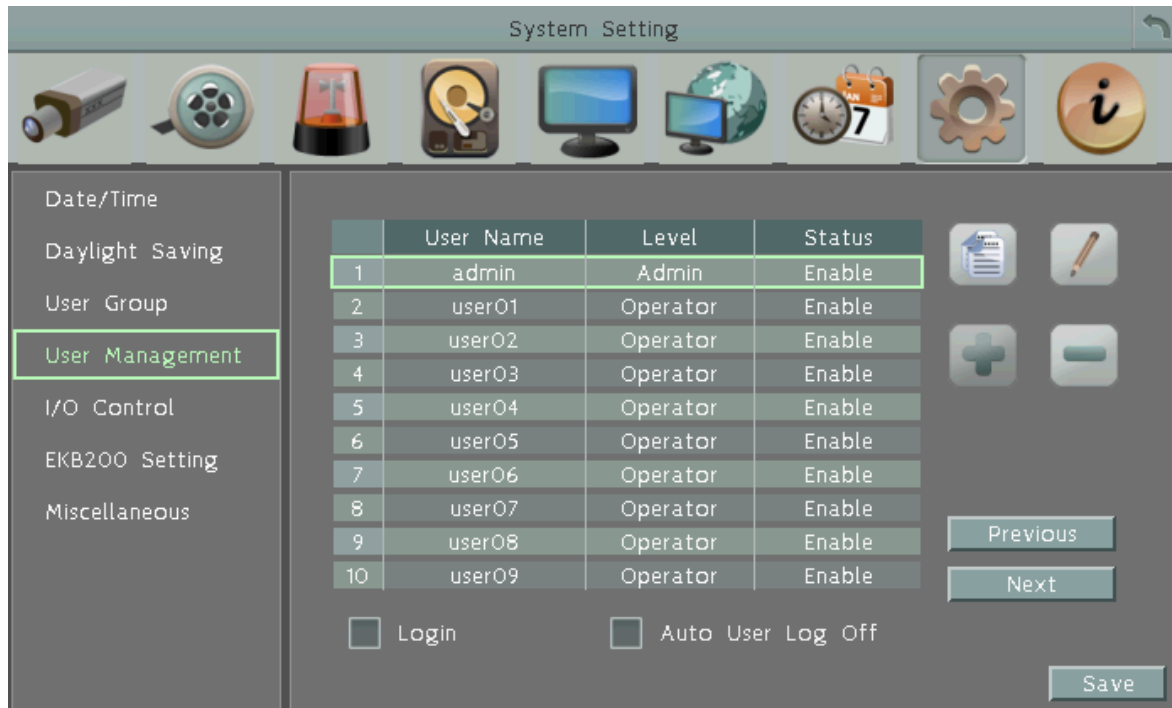

Figure 6-39
1. Click on a user account (Figure 6-39).